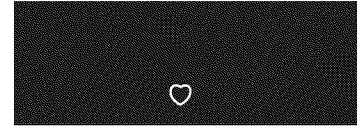

Fig.1
7. Press and hold my favorite pad for 3 seconds. The recipe was successfully stored when the heart icon appears in oven display (Fig. 1).	my favorite